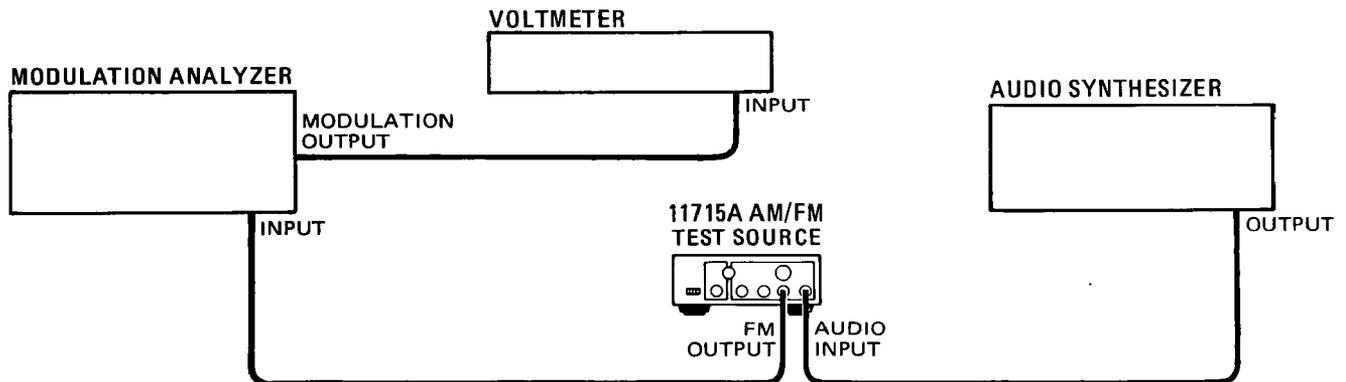

Figure 4-2. FM Distortion Test Setup
1. Connect the equipment as shown in Figure 4-2.